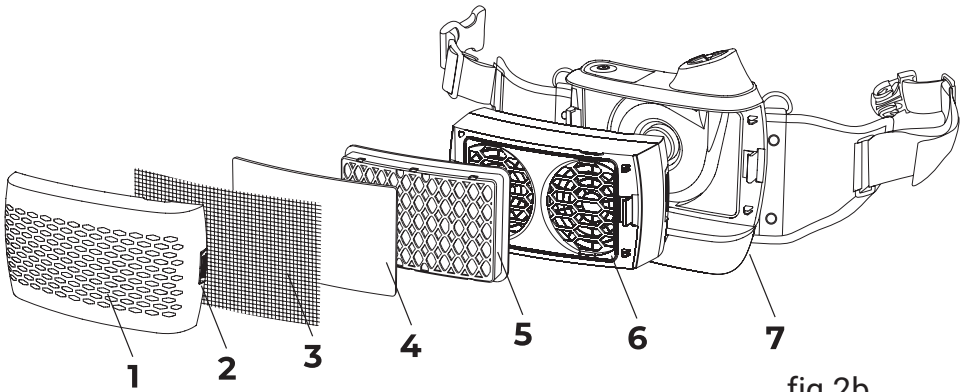

fig.2b
- Install the particulate and gas filters according to Fig. 2b.